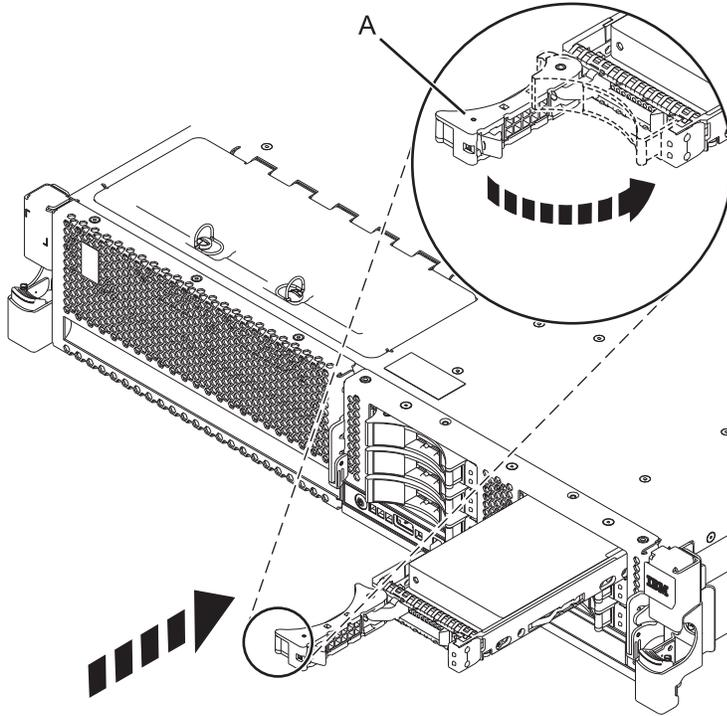

Figure 8. Installing the disk drive in the 8231-E2B, 8231-E1C, or 8231-E2C
10. Slide the disk drive all the way into the system or expansion unit, and push the disk drive handle (A) in until it locks, as shown in Figure 8 on page 23. The service indicator on the disk drive turns on.